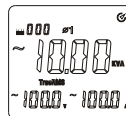

Figure 9-1
- 4) As shown in Figure 9-1, please press SELECT key to select the 1st phase location of $\phi 1$ for three-phase four-wire system of load. It can display apparent power, voltage and current of phase location $\phi 1$.